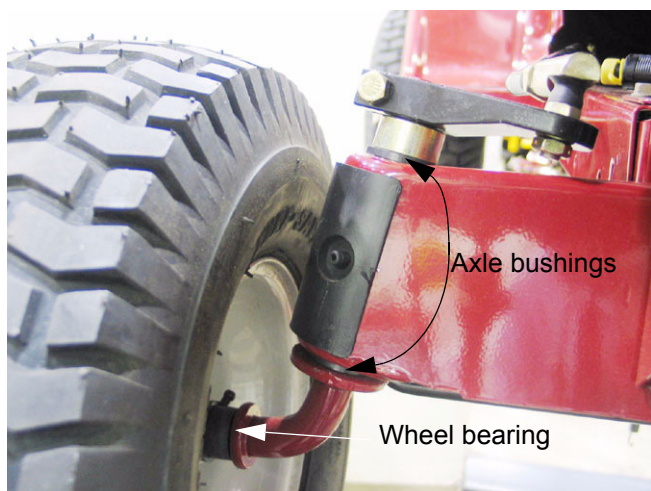

Figure 14.3
14.3. A toe-angle problem may also be caused by worn axle bushings or worn wheel bearings: inspect the wheel bearings and axle bushings. See Figure 14.3.